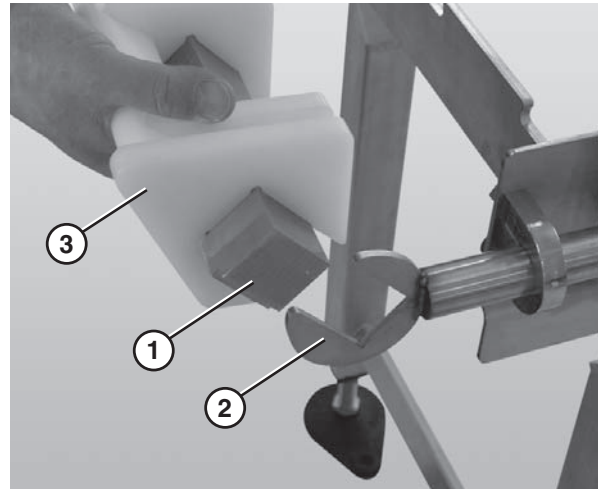

Figure 66
1. Slide the nose bar drive or transfer post (**Figure 66, item 1**) out of the nose bar drive weldment or idler hands (**Figure 66, item 2**).
2. Remove the nose bar tracking pucks (**Figure 66, item 3**), if applicable.